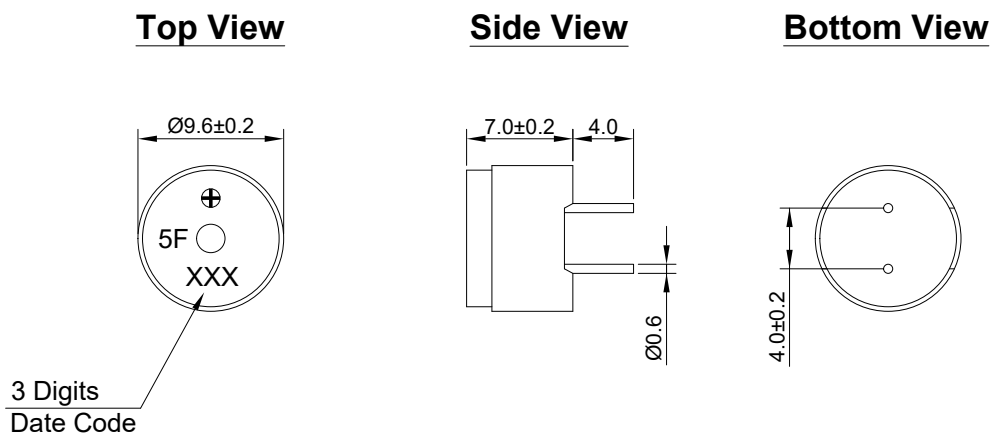

Figure 2. HC0905F/1325 Mechanical Layout
- 4.3.1. Layout and Dimension : See Section 6, Figure 2